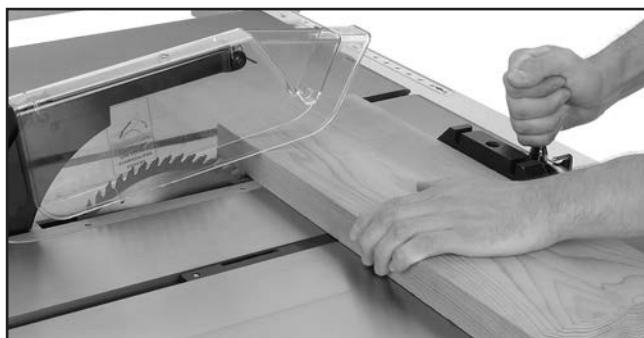

Figure 59. Typical crosscutting operation.
7. Hold workpiece firmly against face of miter gauge (as shown in **Figure 59**), and ease it through blade until workpiece is completely past saw blade.